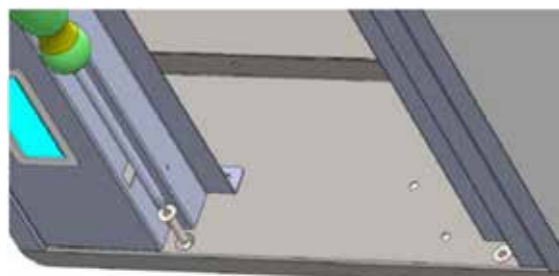

Fig.8b
4. Secure the rangehood body with appropriately sized screws (Fig.8b)